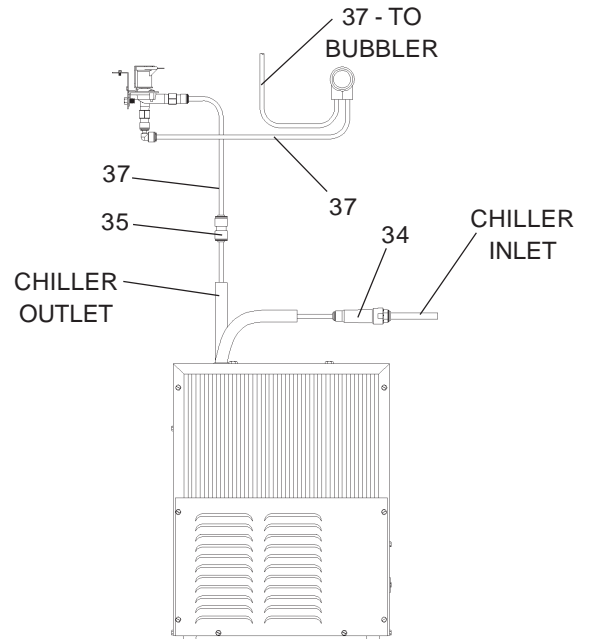

Figure 17 – OVL-II EREE-Q/SREE-Q Tube Routing
4. **Make water supply connections.** Inlet port is marked on the chiller (1/4" O.D. copper tube). Bend the copper tube (provided) at an appropriate length from the chiller to opening in frame. Install the in-line strainer (provided with chiller) by pushing it in until it reaches a positive stop, approximately 3/4" (19mm) on the marked chiller inlet port (See Figs. 17 & 18). Attach an unplated and deburred copper water inlet line and a service stop (not provided) to the chiller. Turn on the water supply and flush the line thoroughly.
5. **Make connection between remote chiller outlet tube and solenoid valve assembly.** Outlet port is marked on the chiller (1/4" O.D. copper tube). Install a 1/4" union/tee (provided) on the marked chiller outlet port. Insert one end of 1/4" poly tubing into the union/tee and the other end into the straight fitting on the solenoid valve assy (See Figs. 17 & 18).
9. **Make connection between solenoid valve assembly and fountain(s).** Insert the 1/4" poly tubing coming from the fountain with sensor into the solenoid valve. Insert the 1/4" poly tubing coming from the fountain with push button into the tee (See Figs. 17 & 18).